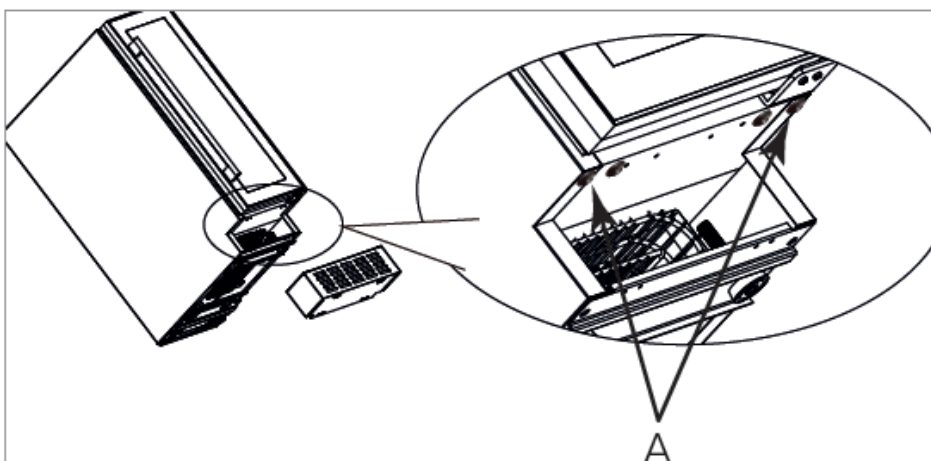

Fig. 14
4. If present, remove the two screws indicated by arrows and marked 'A' in Fig. 14. Then locate the four black fixing screws. They are packed inside the unit with the door reversal hinge.